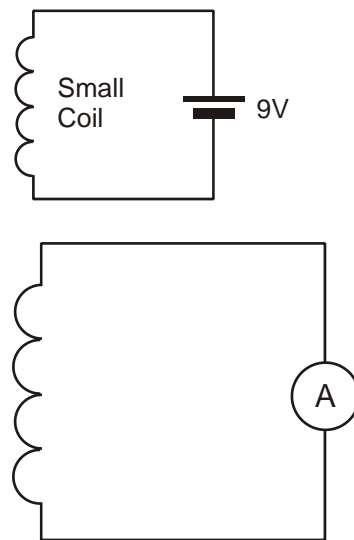

Figure 37
- a. Connect the small coil to the battery as in figure 37
- a. Leaving the circuit connected as in figure 37, place the small coil inside the large coil. Insert and withdraw the iron core.
- a. Leave the circuit connected as in figure 37 with the small coil and iron core inside the large coil. Switch the battery circuit on and off and observe the induced current.